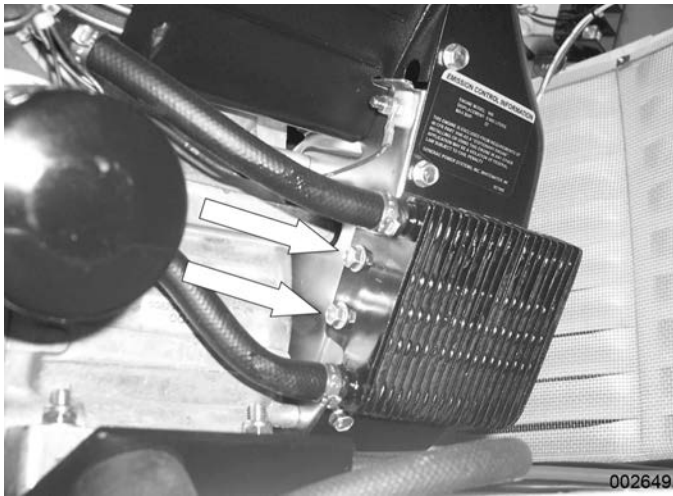

Figure 6-15.
16. See Figure 6-15. Remove the two 10mm bolts from the rear of the oil cooler.